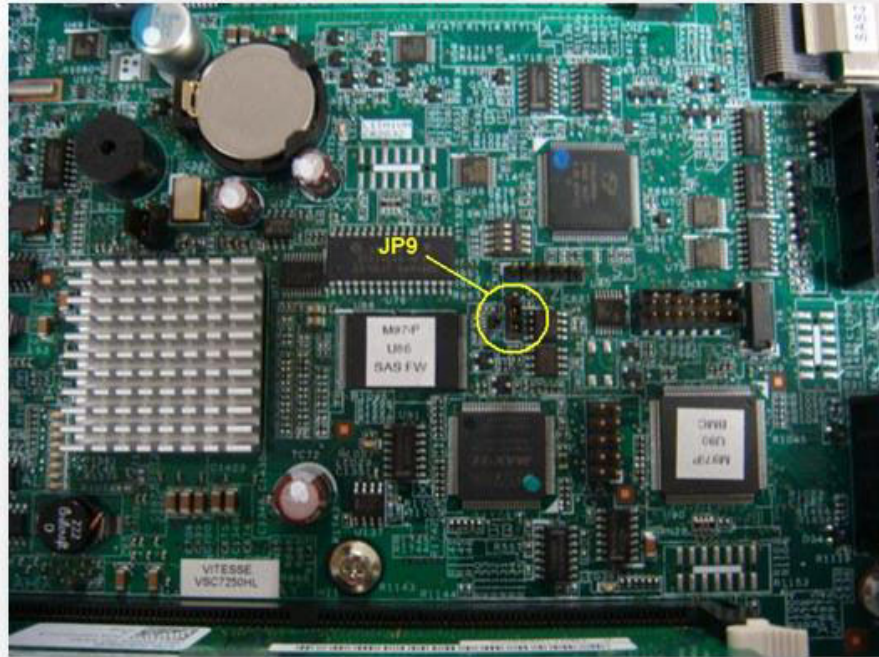

Figure 6. ServeRAID-8k and ServeRAID-8k-l zero-mode flash jumper (JP9) (System x3500)
4. Locate the 3-pin jumper at JP9 on the system board at the back right corner from the front of the server (see Figure 6).